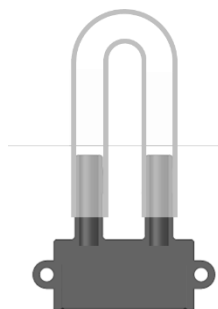

Figure 1: Pressure sensor setup for Task 2/3
2. Conduct a null measurements to analyse the noise of the sensor when there is no signal (pressure difference) expected. Prepare the sensor using the silicone tube as seen in figure 1. Download the sensor driver file and the python file from Moodle. Execute the code and